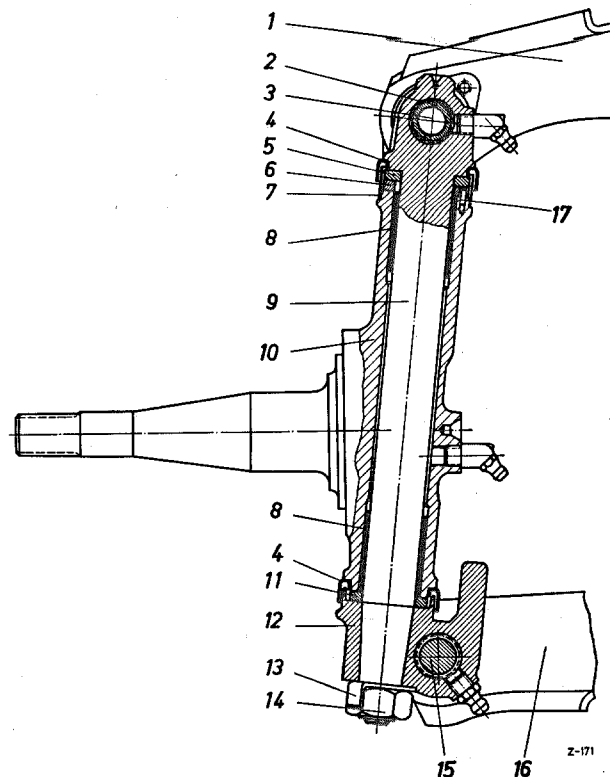

Fig. 33 — 4/6
22. Use Fixture 120 589 01 61 to line up the two steering knuckle supports in position (Fig. 33 — 4/7).
23. Tighten up the hexagon nut (14) (see Fig. 33 — 4/6). The end play of the king pin should be approx. 0.05—0.1 mm. The end play should be corrected by choosing appropriate compensating washers (11). The compensating washers are available in a range of
24. Lock the hexagon nut (14) by tapping over the locking plate (13) (see Fig. 33 — 4/6).